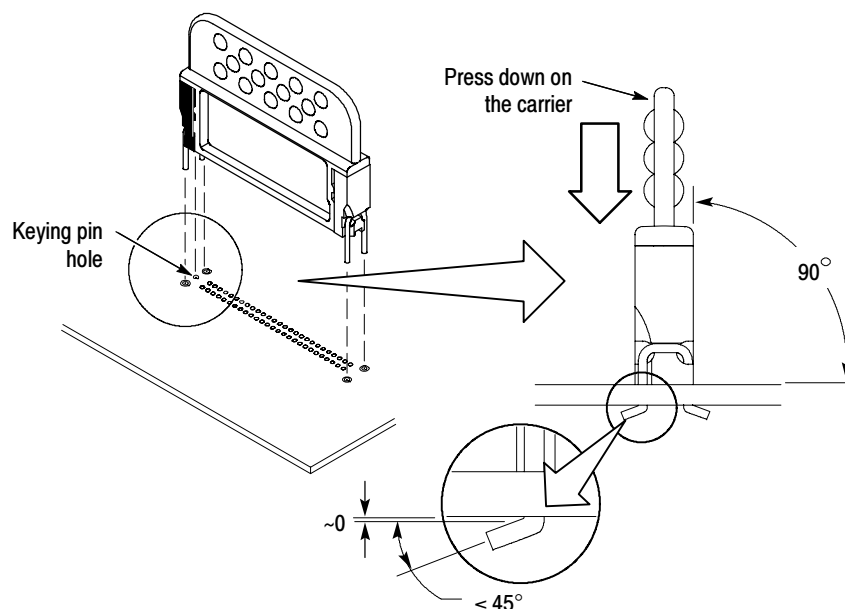

Figure 7: Installing the retention posts in the PCB
1. On the retention post/carrier assembly, locate the black retention post (the post with the keying pin) and align it to the keying pin hole on the PCB. (See Figure 7.)